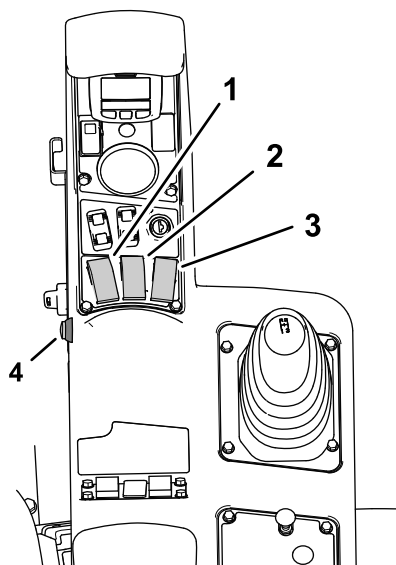
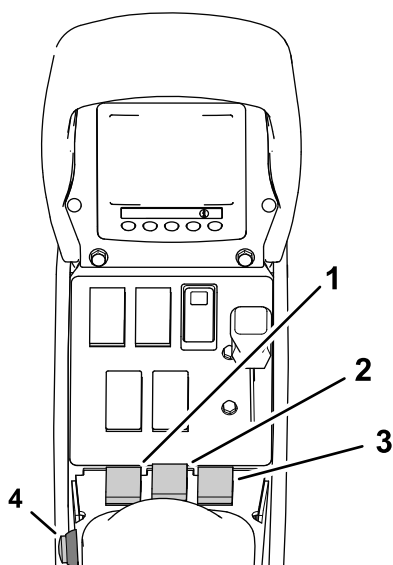

Figure 162
Figure 163
9. Set the 3 section switches (located in the control console of the machine) to the ON position (Figure 162 and Figure 163).